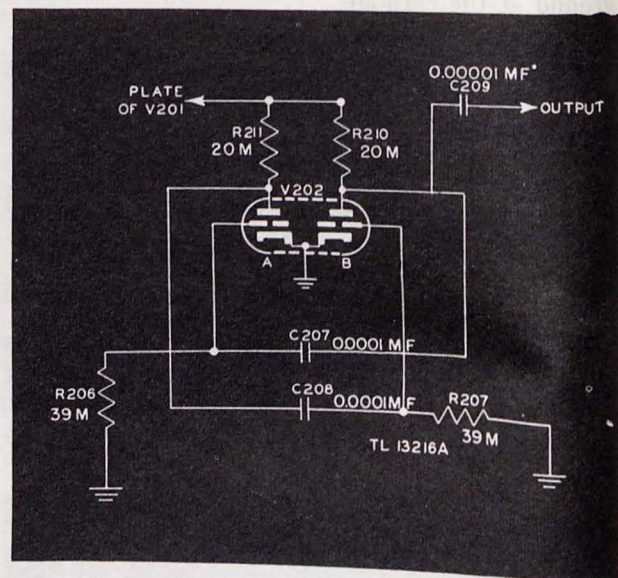

Figure 48. Radio Receiver BC-652-A, functional diagram of 100-kc multivibrator.
(1) Figure 48 shows a simplified diagram of the 100-kc multivibrator circuit. Current flow to the plate of the A section of tube V202 will cause a voltage drop across plate-load resistor R211 causing a drop in voltage applied to the plate. This drop in voltage on coupling capacitor C208 will make the voltage more negative on the B section grid. The changed grid voltage reduces the current flow to the plate of the B section thus increasing the voltage at the plate. The resultant increased voltage on coupling capacitor C207 drives the A grid more positive, further increasing the plate current and dropping the voltage at the A plate. This action continues until the B grid is driven to cut-off and the B section ceases to conduct. At this time the A section is conducting and the B section is not conducting. Resistor R207 starts discharging capacitor C208 until the voltage on the B grid is again at a point where the B section will again conduct. Plate current will again flow in the B section as soon as the tube starts to conduct, thus causing a drop in the voltage at the B plate. This drop in voltage through coupling capacitor C207 will make the voltage more negative on the grid of the A section. The changed grid voltage reduces plate-current flow and increases the voltage at the A section plate. The increased voltage on coupling capacitor C208 makes the grid voltage more positive on the B section, further increasing plate-current flow and reducing plate voltage. This action continues until the A section is driven beyond cut-off. The B section will continue to conduct until resistor R206 discharges capacitor C207 sufficiently to allow the A section to conduct again. The output of the multivibrator is in the form of a squared or trapezoidal pulse which is rich in harmonics.
(2) The frequency of the multivibrator is, therefore, dependent upon the capacity of coupling capacitors C207 and C208, and grid resistors R206